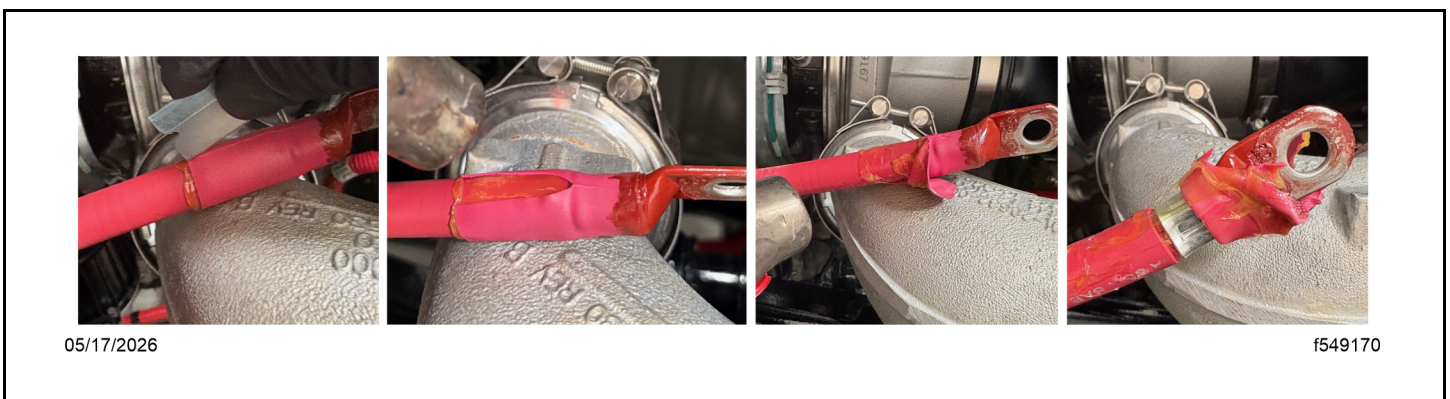

Fig 25, Heat Shrink Removal
- b. Remove the original heat shrink. To do so, heat it, score it, and continue to heat it until the score splits and the adhesive softens. See Fig. Fig. 25.